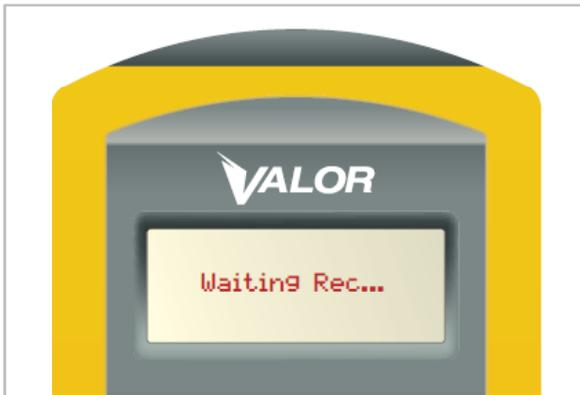

Figura 22
3. La pantalla indicará "Waiting Rec," (Figura 22)